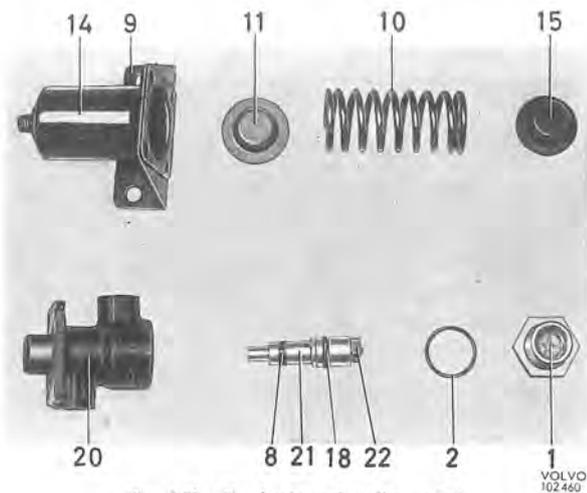

Fig. 5-59. The brake valve dismantled
2. Screw out the plug (1) and press out the plunger complete, see Fig. 5-59.